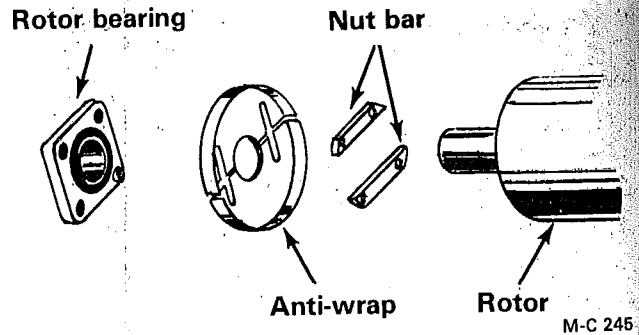

Figure 40
- Place the four mounting capscrews through the bearing and Shredder body. Refer to Figure 40. Partially thread the capscrews into the nut bars. Slide the two anti-wrap halves over the capscrews. Tighten the capscrews evenly to align the bearing on the shaft. Tighten the two set screws in the bearing lock collar.
- Place the four mounting capscrews through the bearing and Shredder body. Refer to Figure 40. Partially thread the capscrews into the nut bars. Slide the two anti-wrap